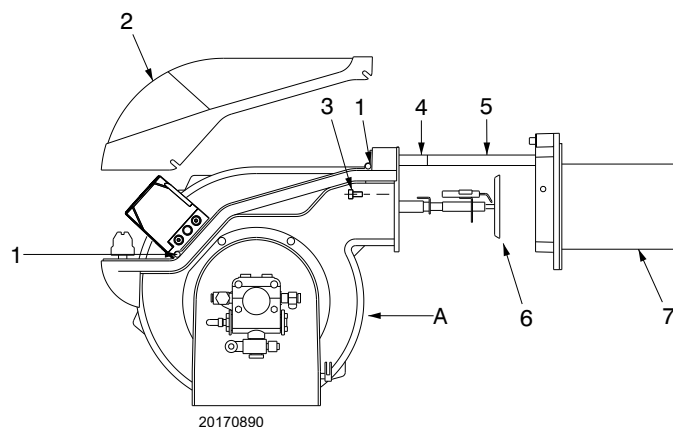

Fig. 40
- pull part A backward keeping it slightly raised to avoid damaging the disk 6) on blast tube 7) (Fig. 40) and disconnecting the start-up electrode cables.